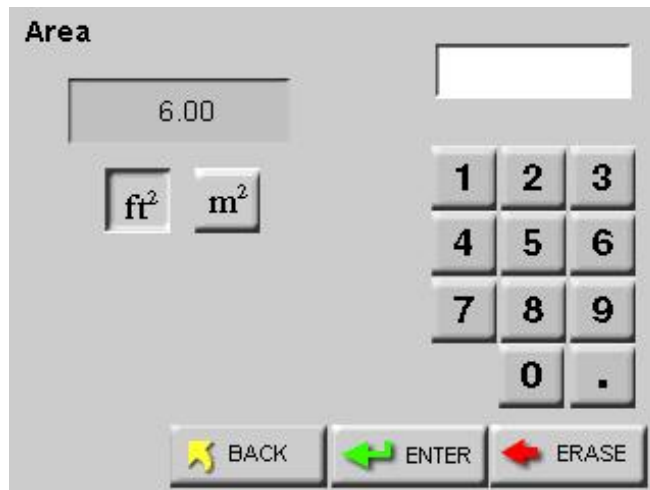

Figure 6-91 Reports Area Setup Screen
- Press the **AREA** button to display screen shown in Figure 6-91.